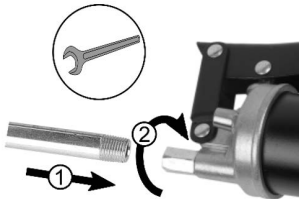

Figure 2: Connecting the hose
Before the first use, the pressure pipe (item 2 in the overview) must be connected to the press head (item 4 in the overview). To do this, screw the pipe thread (item 3 in the overview) into the pressure connection (item 10 in the overview) and tighten it (Fig. 2).
Pull back the push rod (position 5 in the overview). Lock the push rod by turning it so that the pawl (position 6 in the overview) can engage. Unscrew the press head (Fig. 2).